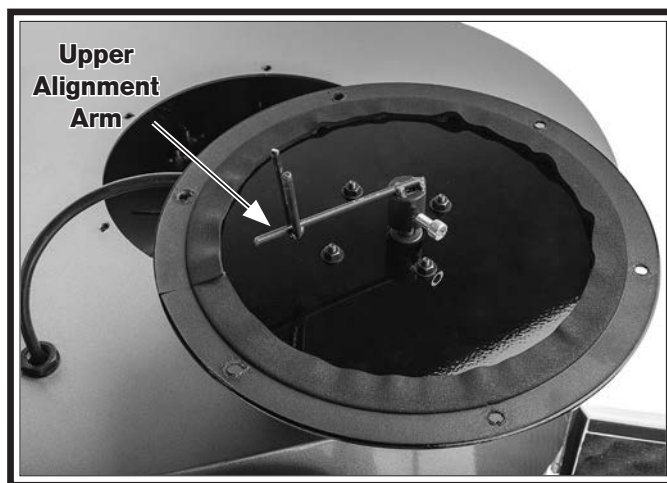

Figure 76. Underneath filter cover assembly.
14. Position filter cover assembly over housing assembly. Rotate lower alignment arm so upper alignment arm on underside of cover assembly (see **Figure 76**) captures lower arm when mounting holes align to housing.